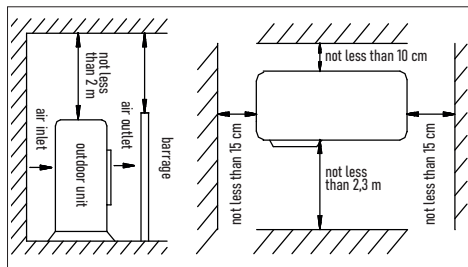

Figure 2
- Check the installation distances as shown in Fig. 2.